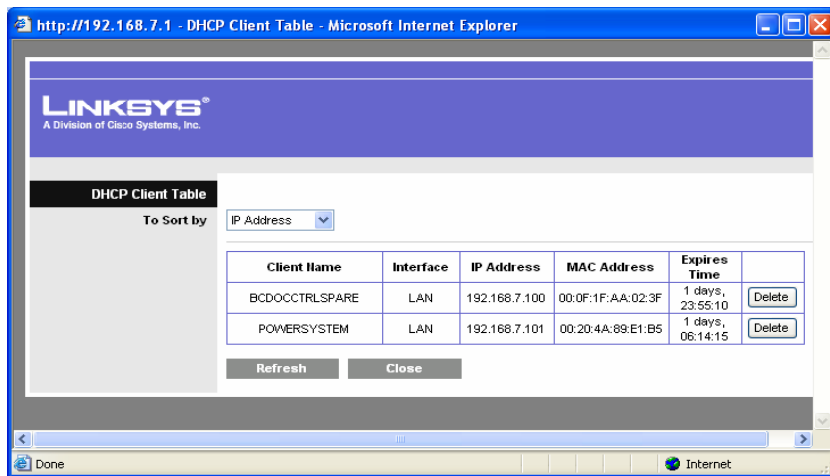

Figure 3-4 Finding the Gateway IP Address
4. The router page should list your computer name and "POWERSYSTEM" (the default Gateway name) along with an IP address for each. In Figure 3-4, the Gateway IP address is 192.168.7.101. Note that this address can change for several reasons, including turning your router on and off, or disconnecting and reconnecting devices to your router.